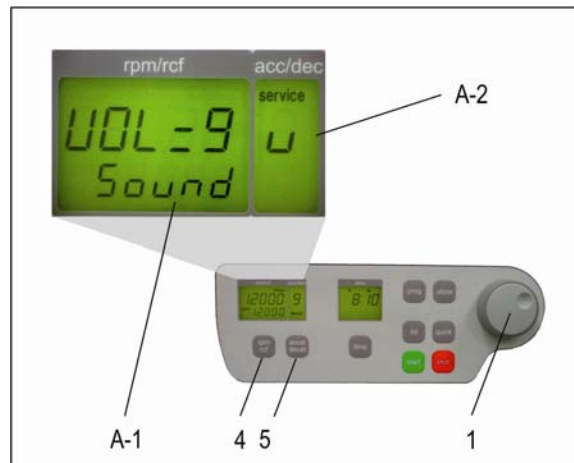

Figure 5
Proceed as described under point 1.7.1 to enter this program mode and then press the key „accel/decel“ (5). In the display „accel/decel“ (A-2) flashes the word „service“. Now select the letter „U“ with the adjusting knob (1). As a result appear in the display „rpm/rcf“ (A-1) the words „Vol=0-9/Sound“. After pressing the key „rpm/rcf“ (4), you can adjust the desired volume between 0 (low) and 9 (loud) with the adjusting knob (1) (see figure 5).